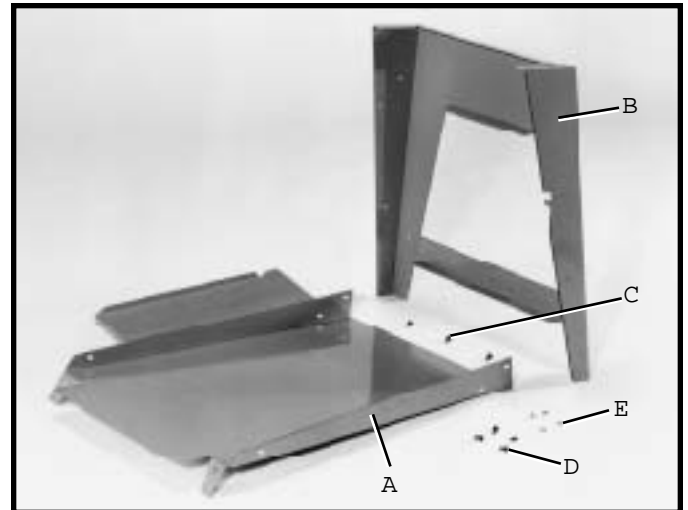
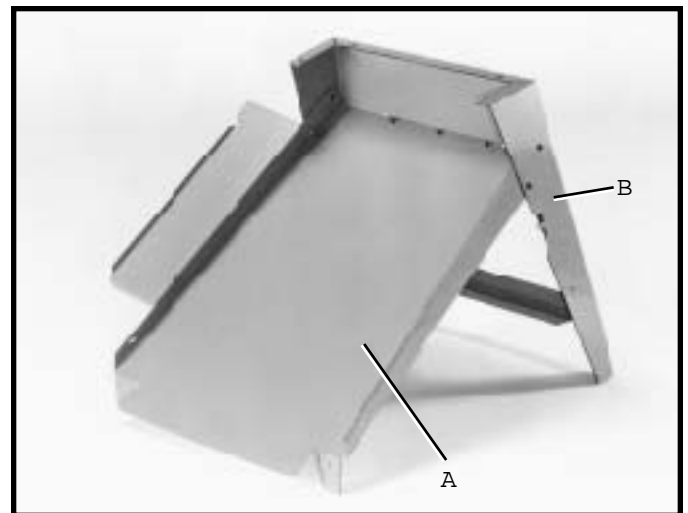

Fig. 5
Fig. 6
1. Assemble the dust chute and support panel (A) Fig. 5, to the inside of the front stand panel (B) with three #10 x 1/2" sheet metal screws (C), four #10-32 x 1/2" screws (D), and four hex nuts (E). Fig. 6, illustrates the dust chute and support panel (A) assembled to the front of stand (B). NOTE: The front stand panel will have the saw identity labels facing you. Do not completely tighten the stand hardware at this time. Also, make certain the dust chute/support panel (A) Fig. 6, is located under the lip of front stand panel (B).